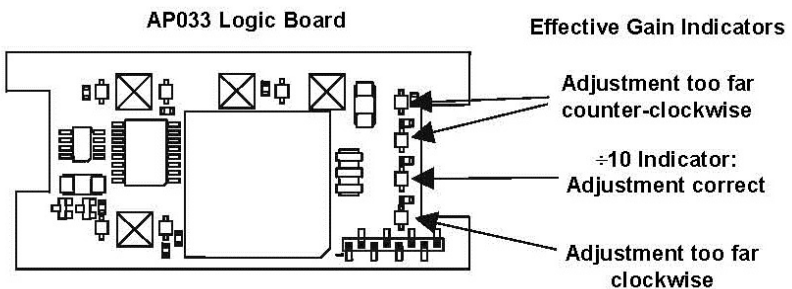

Figure 12,  $\pm 10$  Effective Gain Indicator
7. In Cal Mode, the **EFFECTIVE GAIN** indicators serve as an adjustment indicator. The **EFFECTIVE GAIN** indicators are located on the Logic Board (See Figure 12.) It may be necessary to hold the boards in your hands to see the indicators while making the adjustment.
5. Adjust **Attenuator CMRR (C18A)** for minimum amplitude shift of the displayed waveform at the trigger point in time. See Figure 12 for adjustment location.